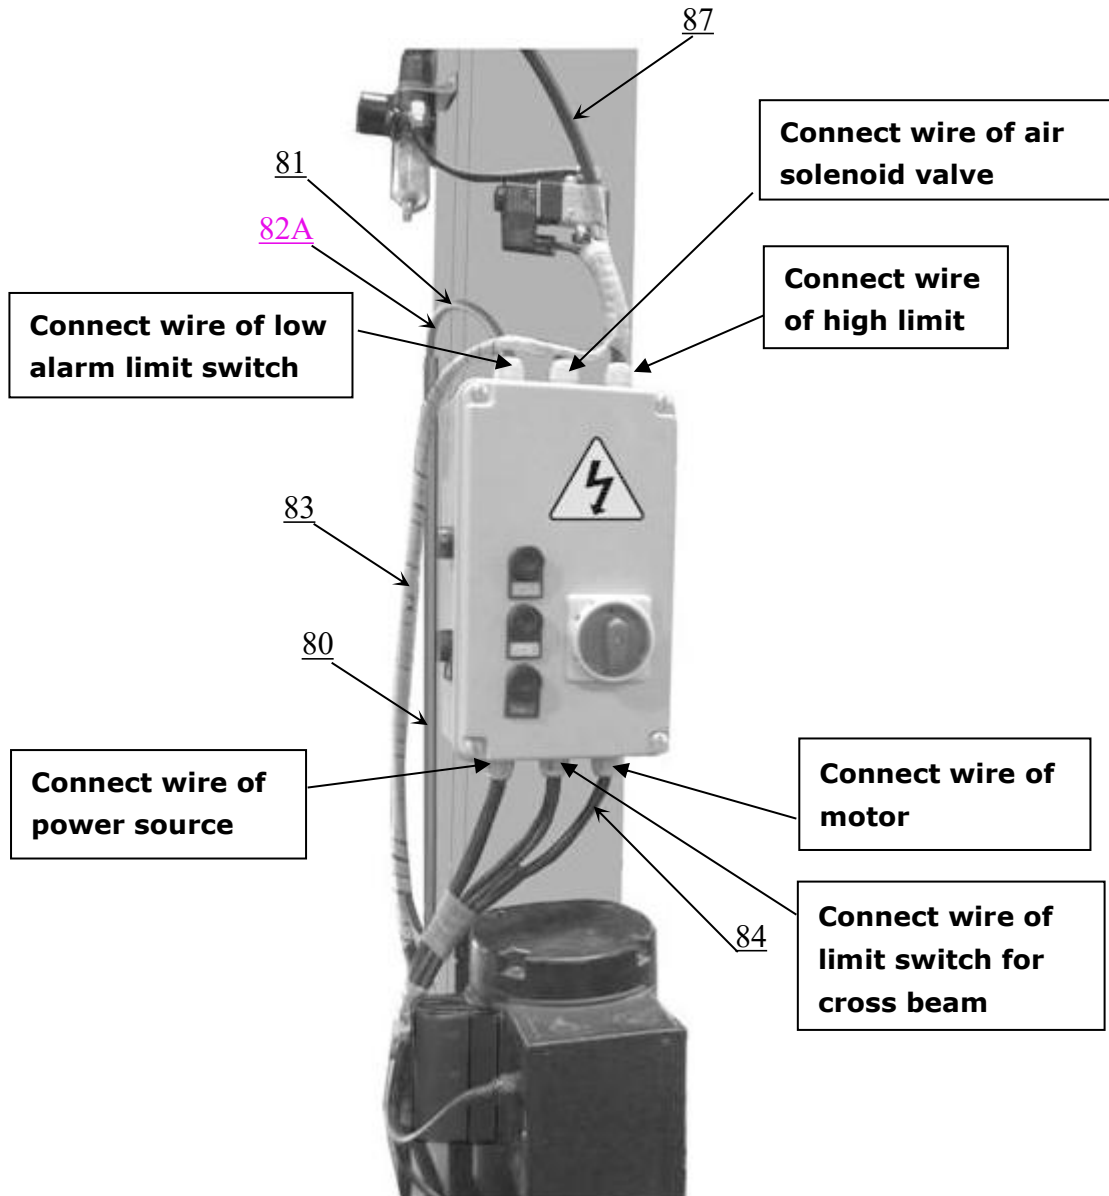

Fig. 43
4. Connecting wire with control box (See Fig. 43).